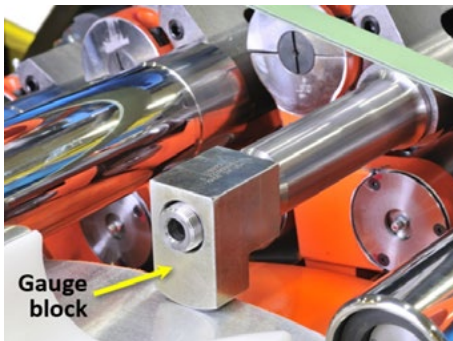

Figure 1
1. Inspect and adjust the mandrel circle using the #1 mandrel set up block to ensure you have a good reference to set and verify the remaining assemblies. (Fig. 1)